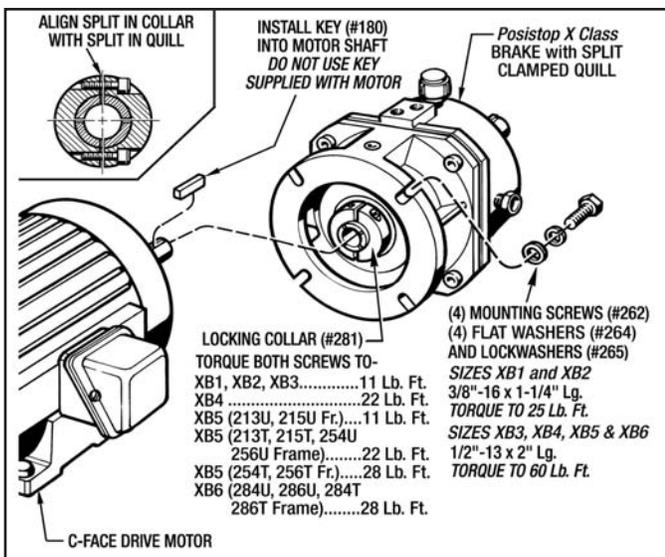

Figure 3.1 - Posistop X Class Brake Installation
3-2 MOUNTING THE BRAKE WITH SPLIT CLAMP QUILL TO THE DRIVE MOTOR (See *Figure 3.1*)
4. Slip the *Posistop* Brake onto the motor shaft with the Key (#180) aligned with the keyway in the Input Shaft (#2) as shown in *Figure 3.1.* Push the Brake Unit until it seats firmly onto the motor pilot diameter.
5. Attach the *Posistop* Brake with the (4) Hex Hd. Mounting Screws (#262) and (4) Lock Washers (#265). **Only finger tighten them at this time. Make sure the brake is snug up against the drive motor.**
6. Torque the (2) Screws in the Locking Collar (#281) in an even manner to the correct torque as shown in *Figure 3.1.*
9. Evenly torque the (4) Mounting Screws (#262) in an opposite manner to the specified torque as shown in *Figure 3.1.*